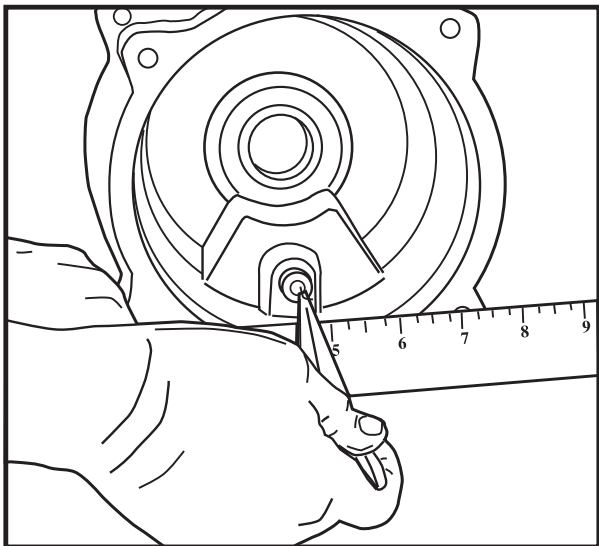
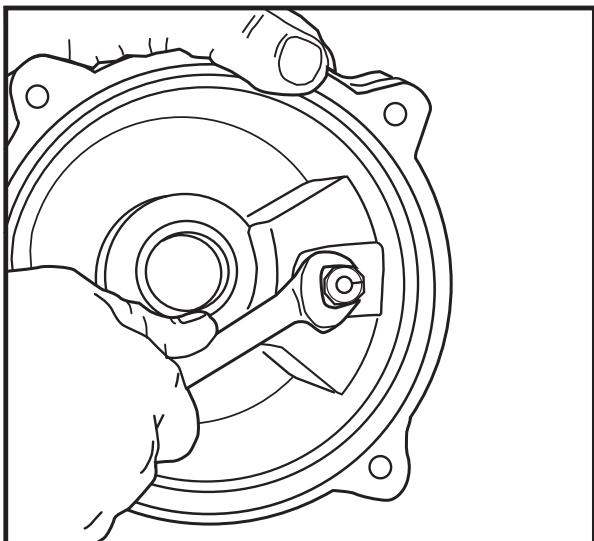

Fig. 41
Fig. 42
15. Put in new seal failure wires and adjust so that the probe portion of the seal leak wires are staggered, the end of the longest wire being up  $\frac{1}{4}$ " from the machined face of the casting. See Figure 41. Position shorter lead above the first so probes do not touch. See drawing front cover. Retighten seal nut. Be sure rubber seal ring is in place to seal wire. See Figure 42.